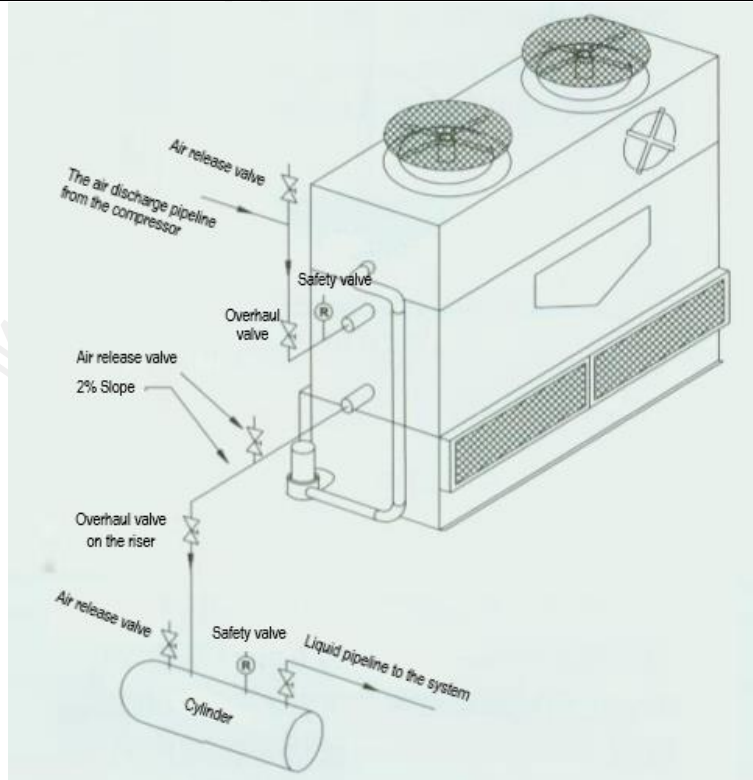
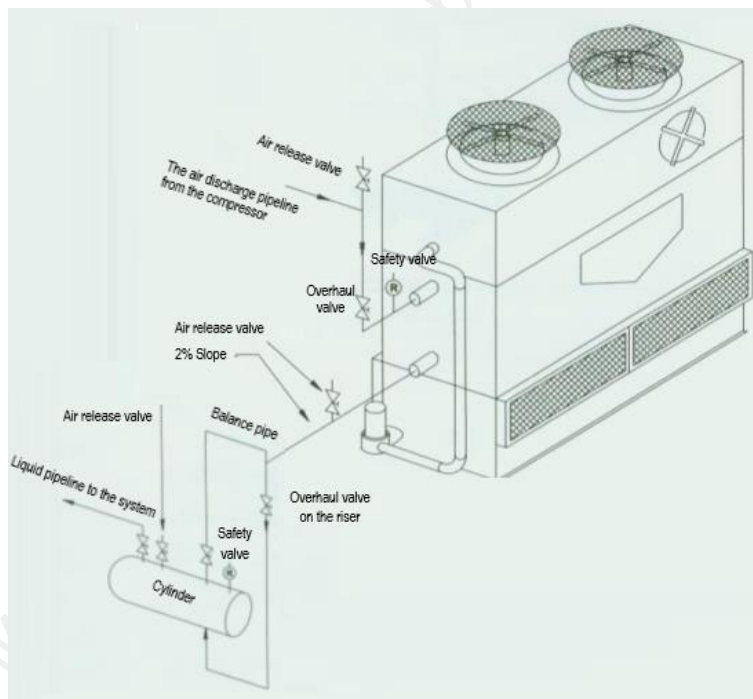

Figure 4
Figure 5
- (1) If the liquid outlet pipe is connected to the gas phase space of the cylinder (liquid inlet at the top of the cylinder), the size of the liquid outlet pipe should be set based on the full load refrigerant flow rate of no more than 0.5 m/s, as shown in Figure 4. Otherwise, a balance pipe (not less than DN20 is recommended) should be set between the top of the cylinder and the liquid outlet pipe of the external condenser, as shown in Figure 5.
- (2) If the liquid outlet pipe is connected to the bottom of the cylinder (liquid inlet at the bottom of the cylinder), a balance pipe interface (not less than DN20 is recommended) should be reserved for the horizontal pipeline of the liquid outlet pipe. In this case, the size of the liquid outlet pipe can be properly reduced, which can be set based on the full load refrigerant flow rate of no more than 0.76 m/s, as shown in Figure 5.